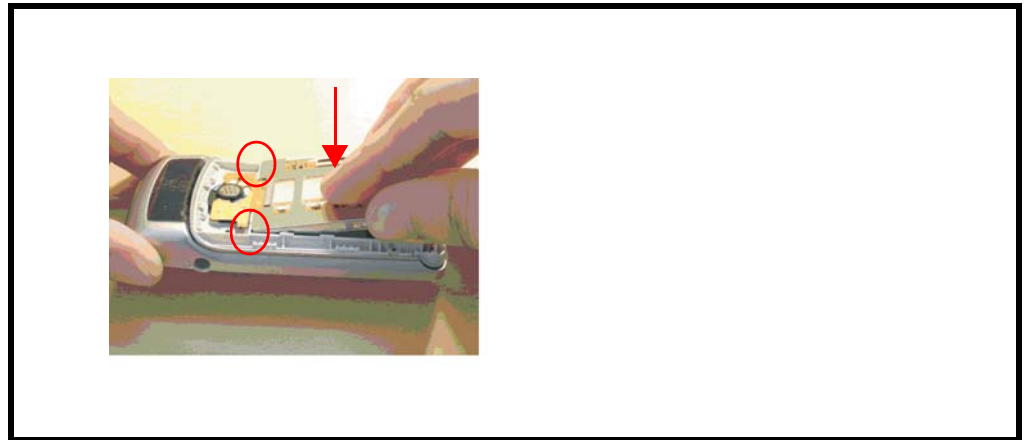

Figure 40. Removing LCM Module
3. To replace, insert LCM module with a small angle into Case-B as shown in Figure 40.